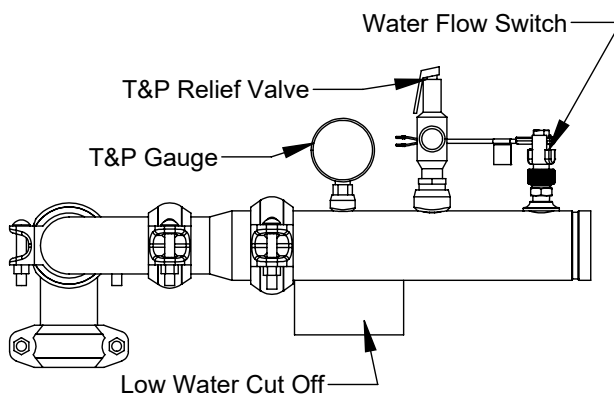

Figure 14: Hot Water Outlet Manifold
2. The hot water supply line shall be connected to the outlet manifold of the appliance shown in Figure 14.